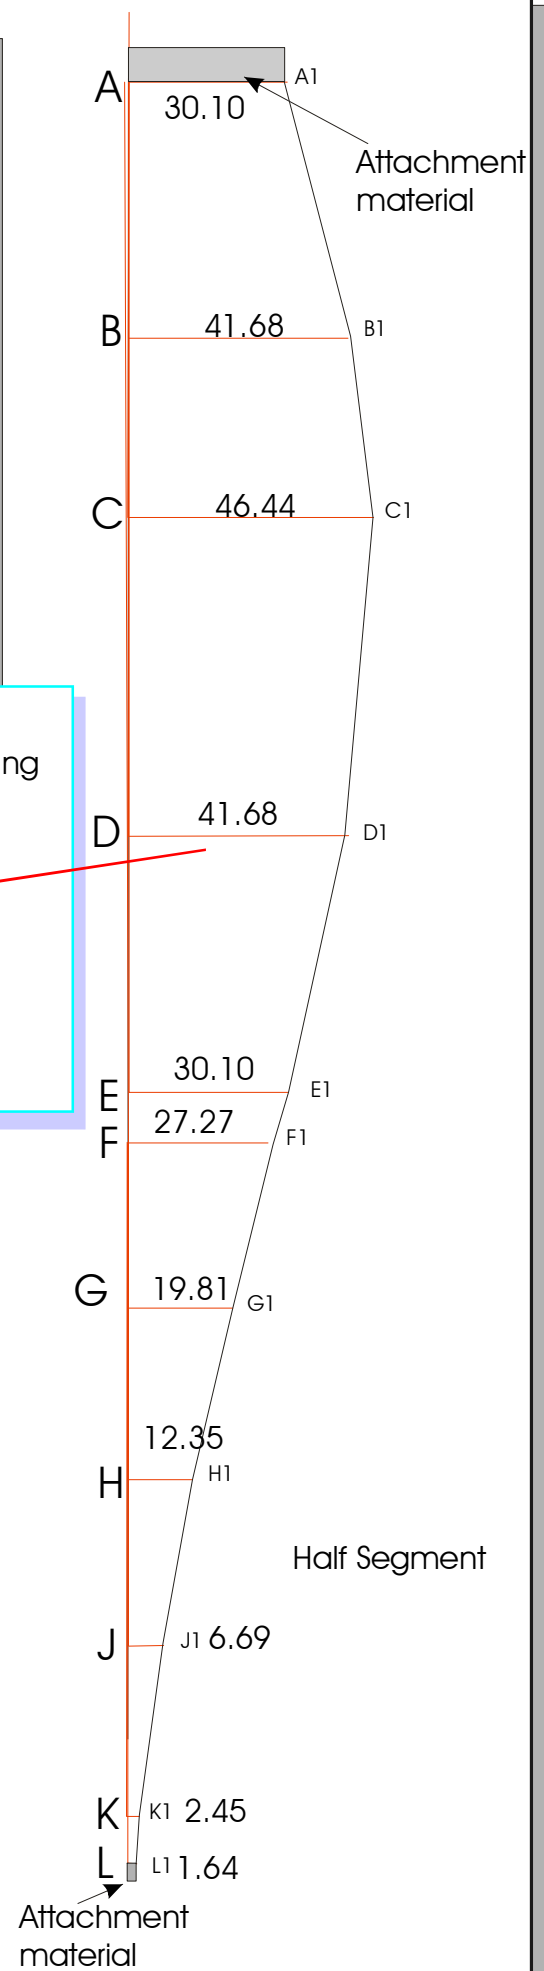

Fig 3
- 31) Draw a horizontal line at right angles across the vertical line. Label this line A at the start and X at the end. See Fig. 3
- 33) Repeat this process for all the values for R1 in the results table and end with A to F. All the measurements start at A. See Fig. 3
- 34) Using the result from the table for F to G measure this value down line A > X but starting at F and label the point G. See Fig. 3
- 35) Repeat this process for all the values for R2 in the result table and end with F to L. All the measurements start at F. See Fig. 3
- 36) From the drawing last worked in 27) note the measurement for A1>A2 and draw a horizontal line out to the right from line A>A1. refer fig 1 and fig 3
- 38) Using a French curve join all the line ends just added to form the outside edge of the segment. Refer Fig 3